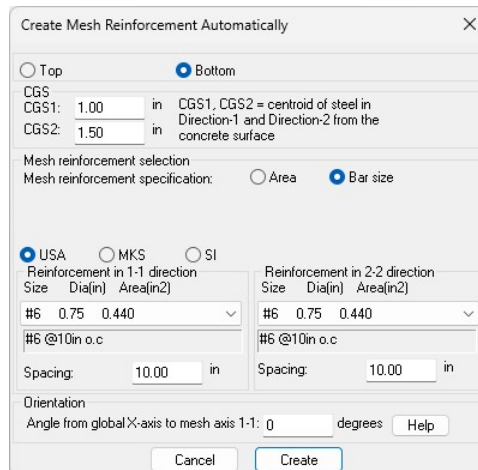

Figure 4.2-13 - Automatic Mesh Reinforcement Dialog
- A dialog box as shown in **Figure 4.2-13** will be displayed. Specify the layer of reinforcement you are going to define as **Bottom** and use the **Bar size** option. For this example, specify **#6 @ 10 in c/c** in both directions. Click on the **Create** button to add this rebar as user defined base reinforcement. Not that if you are using a different slab for the tutorial, determine what spacing and size of reinforcement is required as mesh rebar to satisfy the initial reinforcement output from the program.